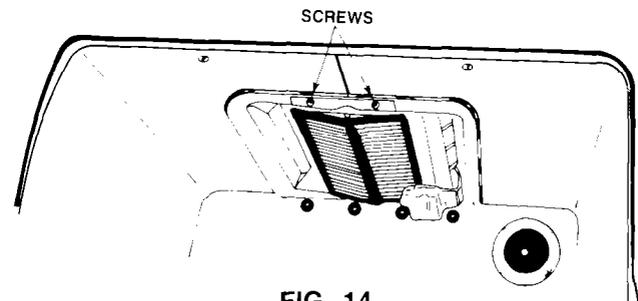

FIG. 14
2. Remove the two screws fastening the broiler burner to the oven tank at front of burner. (See Figure 14) Remove the burner by pulling front and down to expose the burner orifice spud in the rear wall. Be careful not to break the ignitor coil. Lay the burner aside carefully with the screen side up. Replace the burner orifice spud using a  $\frac{5}{16}$ " nut driver. Reverse the procedure to reinstall the burner.